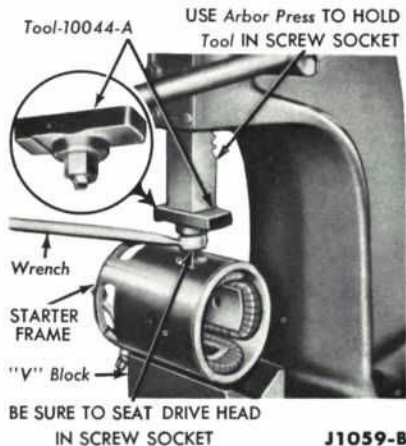

FIG. 47—Pole Shoe Screw Removal
9. Remove the three coil retaining screws, using tool 10044-A and an arbor press (Fig. 47). The arbor press prevents the wrench from slipping out of the screw. Unsolder the field coil leads from the terminal screw, and remove the pole shoes
5. Unscrew the three field-pole shoe screws as shown in Fig. 47. The arbor press prevents the wrench from slipping out of the screw.